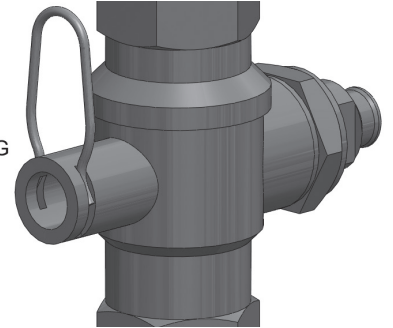

Figure 21.
5. After the mounting plate is secured to the wall replace the solar pump station back cover, insert the retaining clips half way onto the mounting retaining stud (see Figure 21) behind the isolation ball valves (J, Q), push the assembly onto the bracket mounting stud and push the clip down into place. Ensure assembly is properly locked into place.